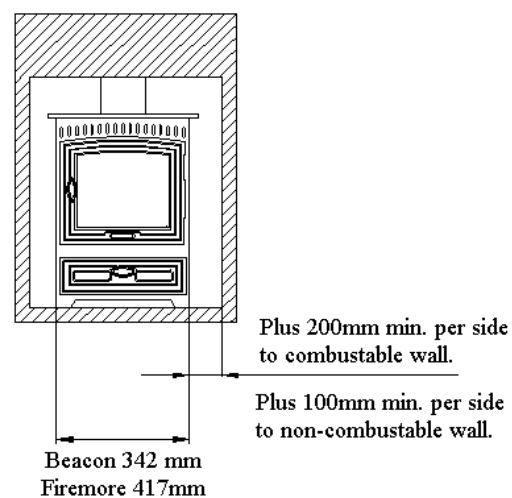

Fig 6a
*There must be a minimum of 200mm clearance from the sides of the fire to any combustible sidewalls. Fig6a.*
*For clearance from the top of the fire to any combustible shelf. Fig 6a. (See Graph 1).*